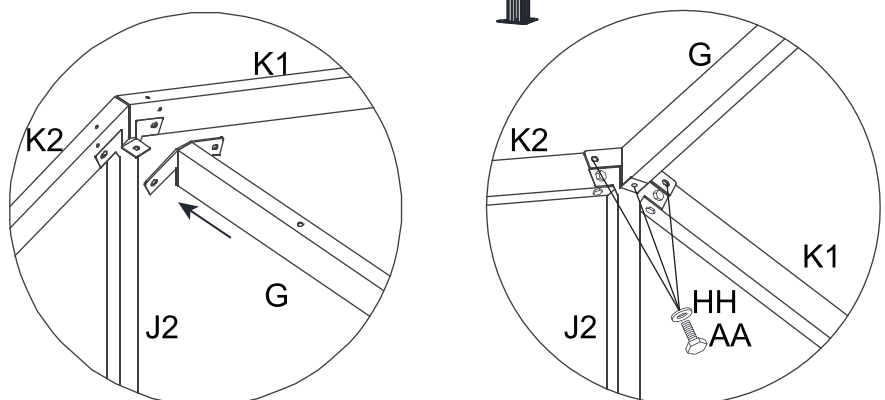

Figure 10.3
10.3 Connect the Middle Support bar (G) with the Bilateral Cant Beam (K1/K2), fix them with Bolts (AA) and Washers (HH). See Figure 10.3.